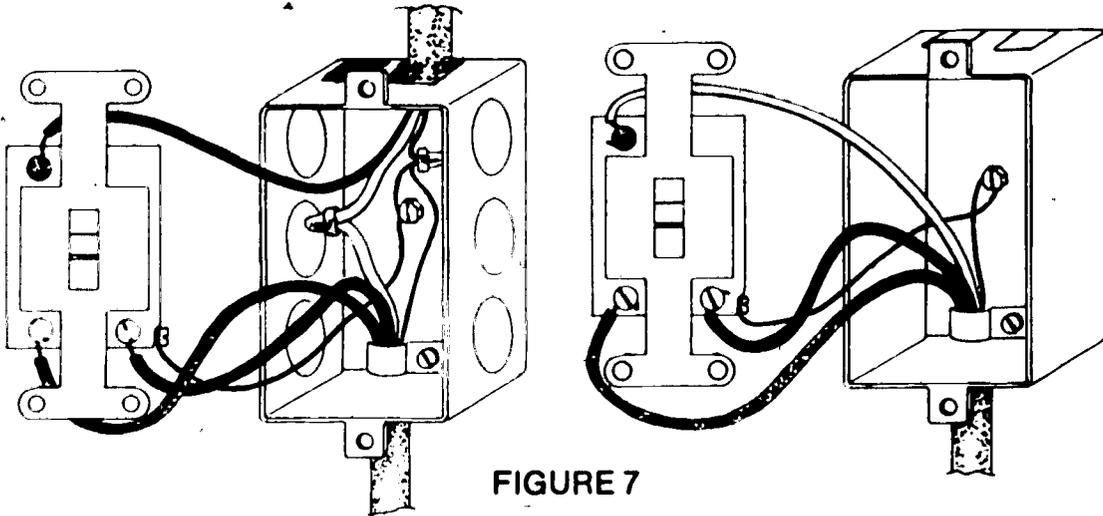

FIGURE 7
N. Install switches (Figure 7)